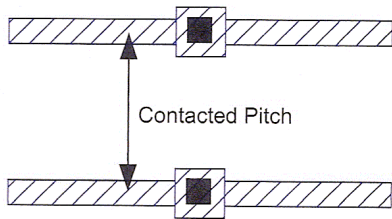

FIG 3.28 Contacted metal pitch
- 3.6 Using Table 3.2, calculate the minimum contacted pitch as shown in Figure 3.28 for metal1, metal3, and metal6 in terms of lambda using the SUBM rules in a 6-layer process. Is there a wiring strategy that can reduce this pitch?